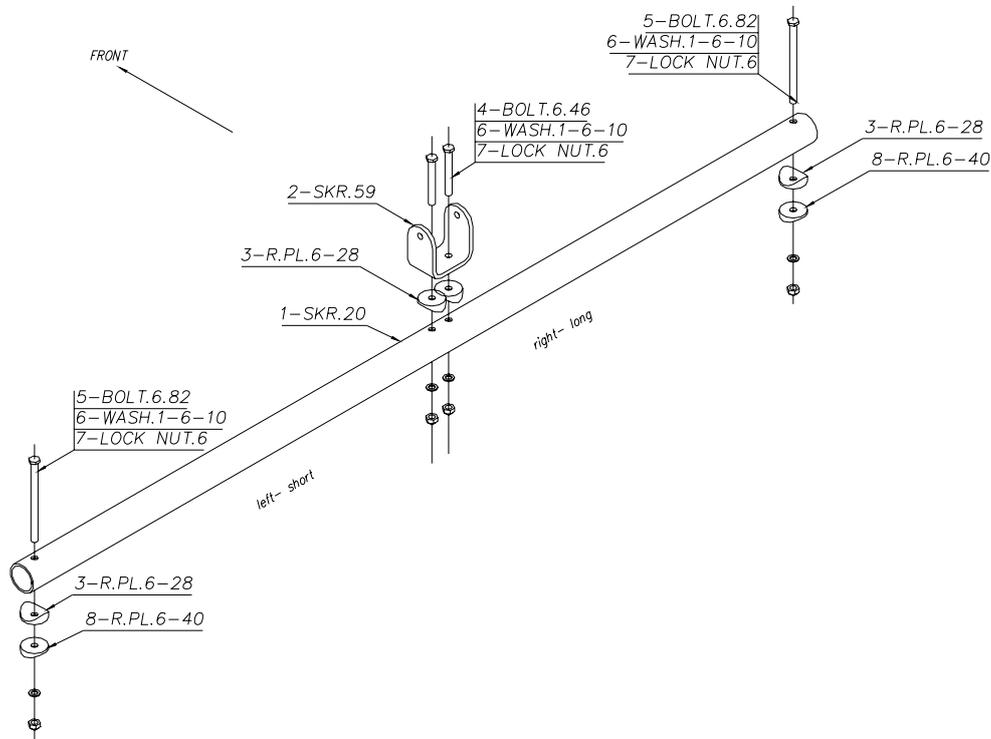

Figure 66; fuel tank support / flap handle mount.
- a) Fit the fuel tank support **tu20** to the lower rear fuselage tubes **tu4**, with the U-bracket located towards the port side of the fuselage and facing upwards, Figure 66 and Figure 67.